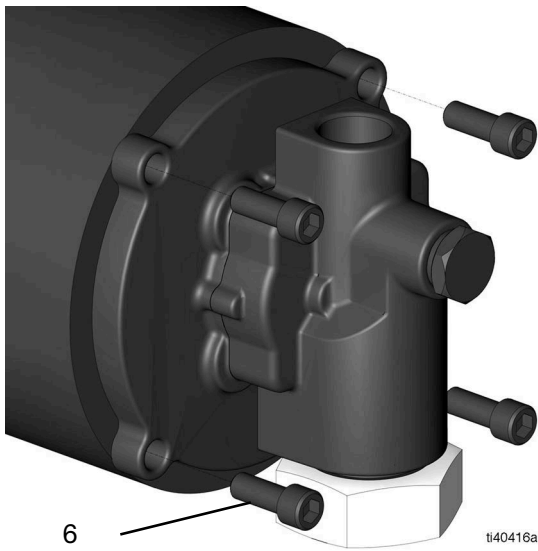

FIG. 7
5. Remove the four Allen screws (6) using a 5/16 in. (8 mm) hex wrench (FIG. 7).
7. Place and tighten the four Allen screws (6) using an 5/15 in. (8 mm) hex wrench (Torque 20 ft-lbs, 27.1 N•m) (see FIG. 7).